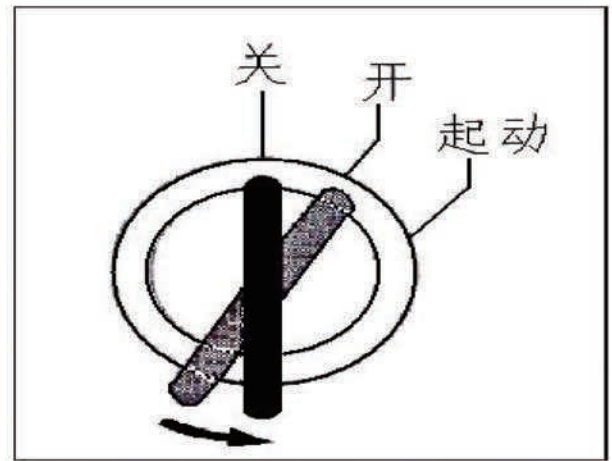

Fig 3- 73
3. Turn the key to “OFF” position, shut down the engine(Fig 3—73)
5. Put the safety rod ①(Fig 3—74) on the lock position, and pull up.